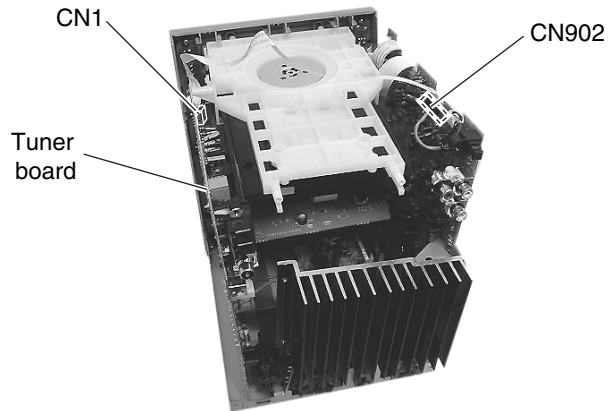

Fig. 9
■ **Removing the tuner board (See Fig. 9~10)**